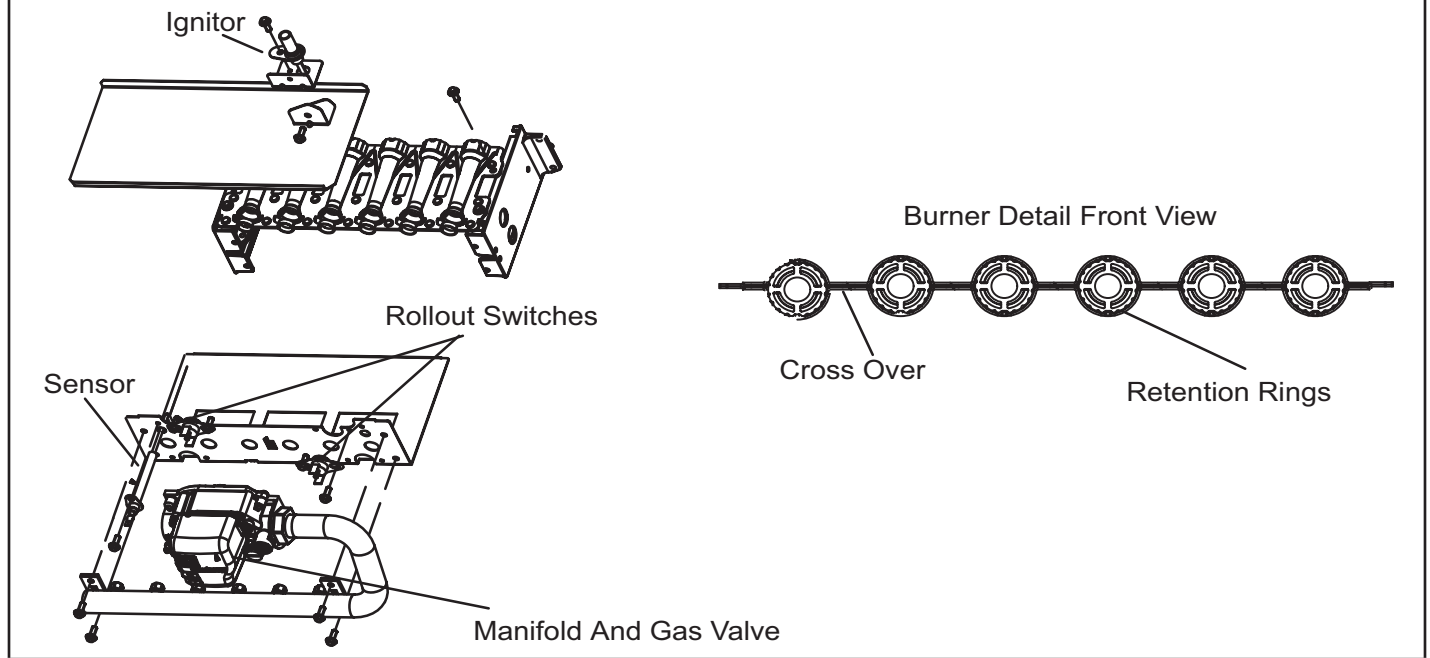

Figure 34
- 4 - To clean burners, run a vacuum cleaner with a soft brush attachment over the face of burners. Visually inspect inside the burners and crossovers for any blockage caused by foreign matter. Remove any blockage. Figure 34 shows burner detail.